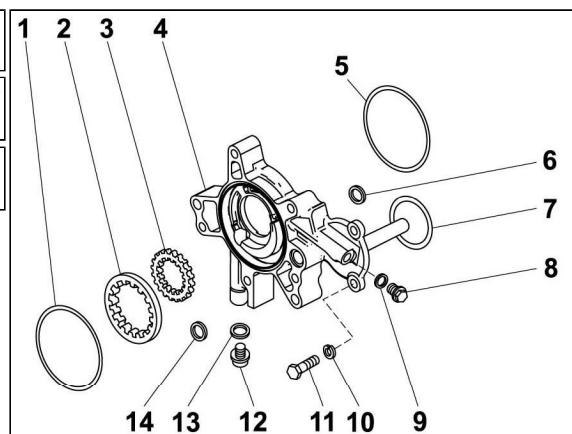

Fig. 3.60 Gearbox oil pump - installation
12. Loosen the plug 12 (See Fig. 3.60) in the lubricating port in the pump housing 4.